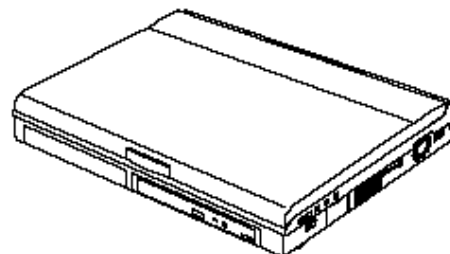

Figure 1-1 LifeBook 700 Series Notebook
- LifeBook 700 Series from Fujitsu. (Figure 1-1.)